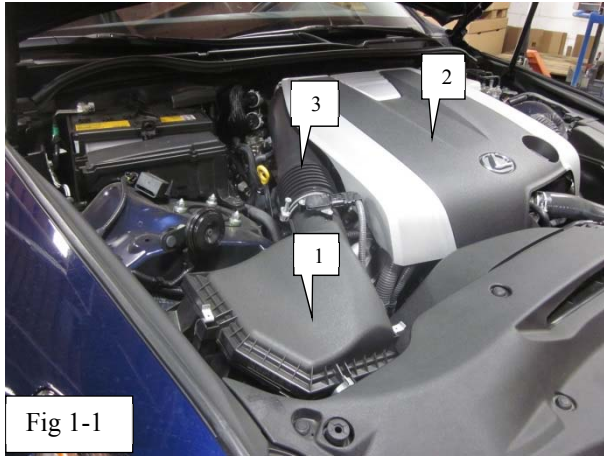
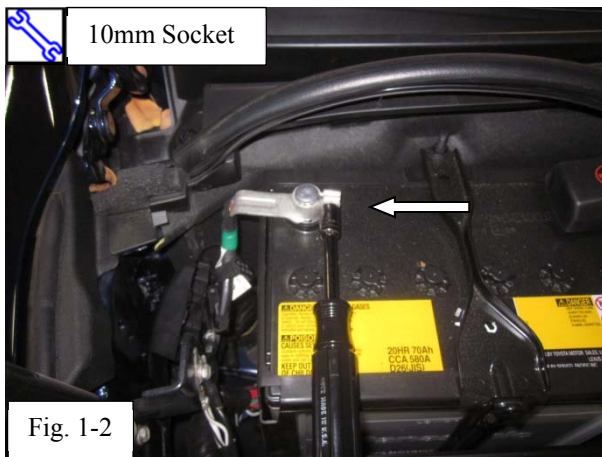

Fig 1-1
Fig. 1-2
- (b) Completely familiarize yourself with the installation and components before beginning (Fig. 1-1).
- (1) OEM air box.
- (2) Engine cover.
- (3) Air box inlet tube.
- (e) Loosen the M6 bolt securing the negative terminal to the battery and remove the terminal (Fig. 1-2).